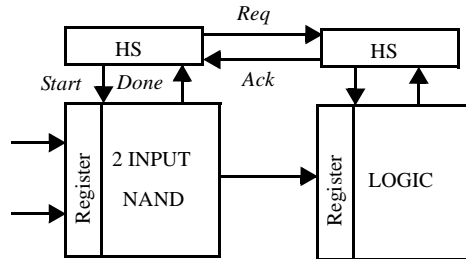

Figure 0.10 Self-timed circuit.
7. For the self-timed circuit shown in Figure 0.10, make the following assumptions. The propagation through the NAND gate can be 5 nsec, 10 nsec, or 20 nsec with equal probability. The logic in the succeeding stages is such that the second stage is always ready for data from the first.